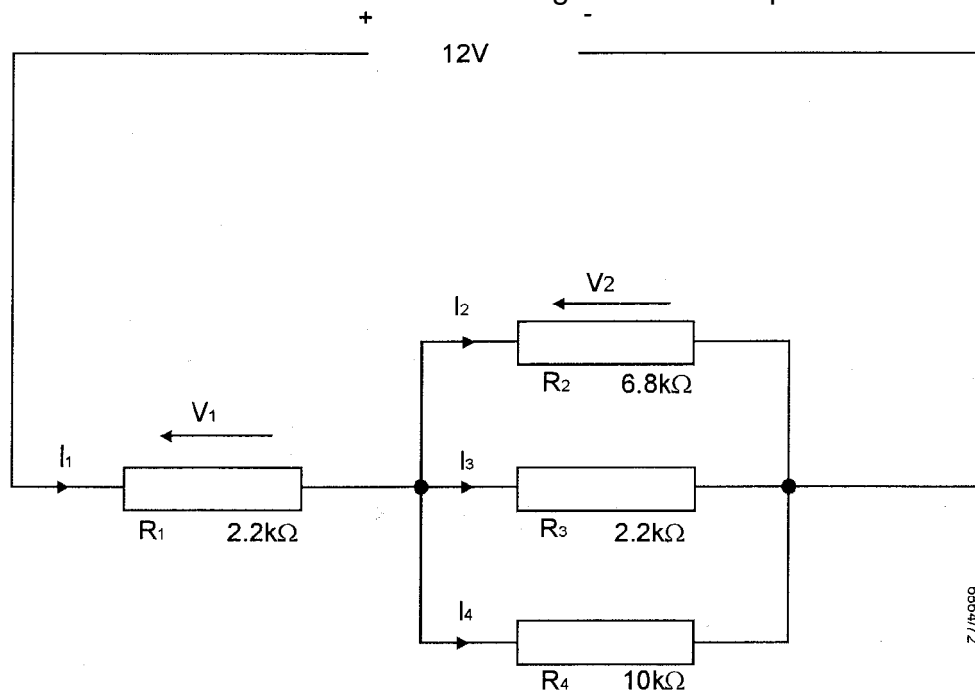

Fig. 32
- Construct the circuit of Fig 32